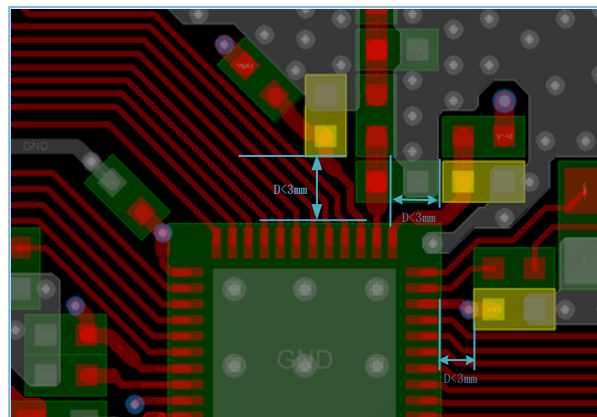

Figure 3-14 Reference layout and routing for RF input power supply
1. Decoupling capacitors (highlighted in yellow rectangles in Figure 3-14) connected to VDD\_RF, VDD\_VCO, and VDD\_AMS should be as close to the corresponding pin as possible (around 1 mm is recommended, and shall not exceed 3 mm). Place the capacitors on the same layer with the pins if possible, and make sure the wiring path goes through the capacitors first and then connected to the chip power pins. In case the capacitors are not placed on the same layer with the pins, the vias should be located close to the decoupling capacitors.